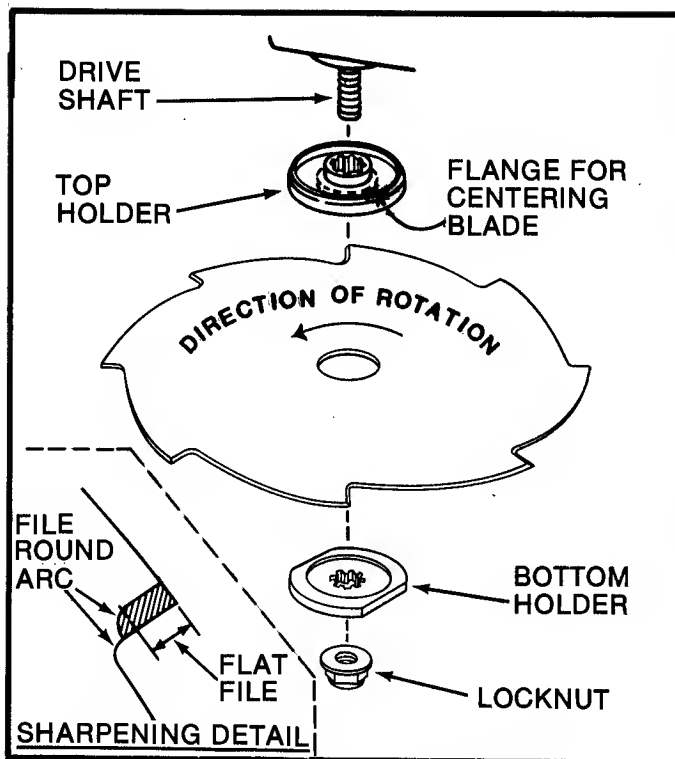

FIG. 7 - CUTTING BLADE INSTALLATION
NOTE: When installing a blade on the output shaft, the top and bottom holders are used in a different sequence - also, a lock nut is provided with the optional blade. Refer to FIG. 7.
1. Position the centering flange of the top holder into hole of the blade. Make sure cutting edges are positioned as shown in figure 7.
BLADE SHARPENING PROCEDURE: Check blade for nicks and cracks and discard if any are found! Sharpen blade cutting edges as shown in figure 7. Be sure to maintain radius at base of tooth to minimize chances of cracks developing in this particular area of the blade.